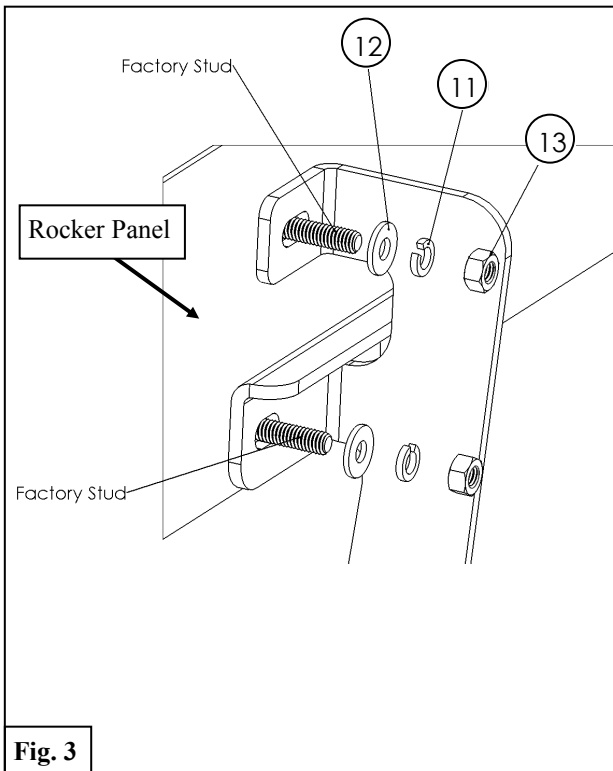

Fig. 3
- At the rear mounting location, loosely install Rear Mounting Bracket (4) with preassembled Mounting Bracket Base (5) using the supplied M8 hardware. See **Figures 3 & 4**.